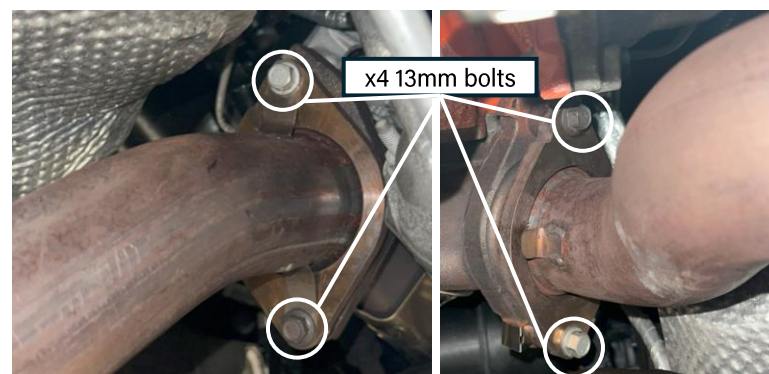

Figure 4e: Front pipe flange (driver/passenger side)
- Unbolt the passenger and driver front pipe/converter (Figure 4e)